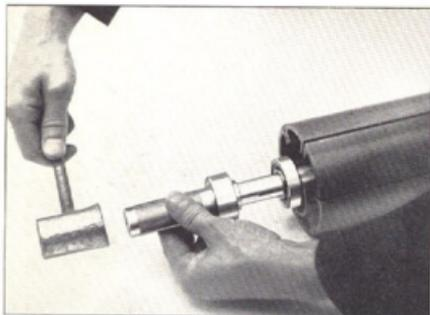

FIG. 8. Assembly of the shaft collar.
3. Reverse the rotor and assemble the inner ring of the roller race to the drive end shaft again using the special tool. Then with the same tool drive on the shaft collar up to the bearing. See Fig. 8.